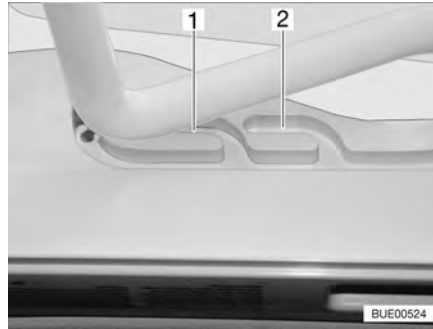
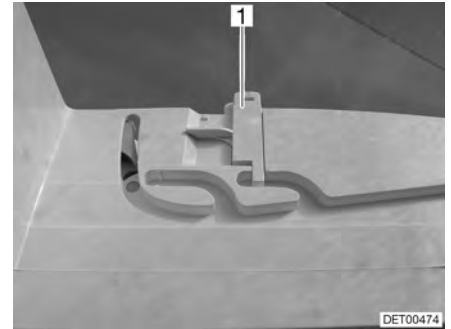

Fig. 62 Heki skylight in ventilation position
Fig. 63 Ventilation position locking mechanism
The Heki skylight can be put in two ventilation positions: Bad weather position (Fig. 62,1) and central position (Fig. 62,2). Depending on the model, the skylight can be locked in the central position with the latch (Fig. 63,1).
- Push the bar slightly upwards and into the selected guide (Fig. 62,1 or 2) and lock if necessary.